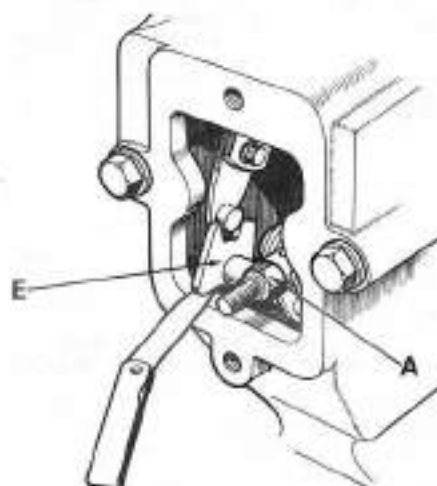

Fig. 143—View with cover removed from right rockshaft bracket showing pump valve linkage adjusting nut (A) and operating lever (E). Refer to text.
With engine stopped, linkage lowered and override control in engaged position, place control lever in "raise" position and remove cover plate from right hand rockshaft housing. Refer to Fig. 143 and unscrew nut (A) until flush with end of rod. Working through plug (B—Fig. 142) opening, screw nut (C) down slowly until washer (D) can just be turned with finger, then unscrew the nut two complete turns and reinstall plug (B).
Raise lift linkage by hand and lock with locking latch. The automatic hold mechanism should now be tripped rearward into "hold" position with heel of operating lever (E—Fig. 143) resting against housing. Tighten nut (A) until a thin feeler gage can be inserted between heel of lever and housing, then unscrew nut four turns.